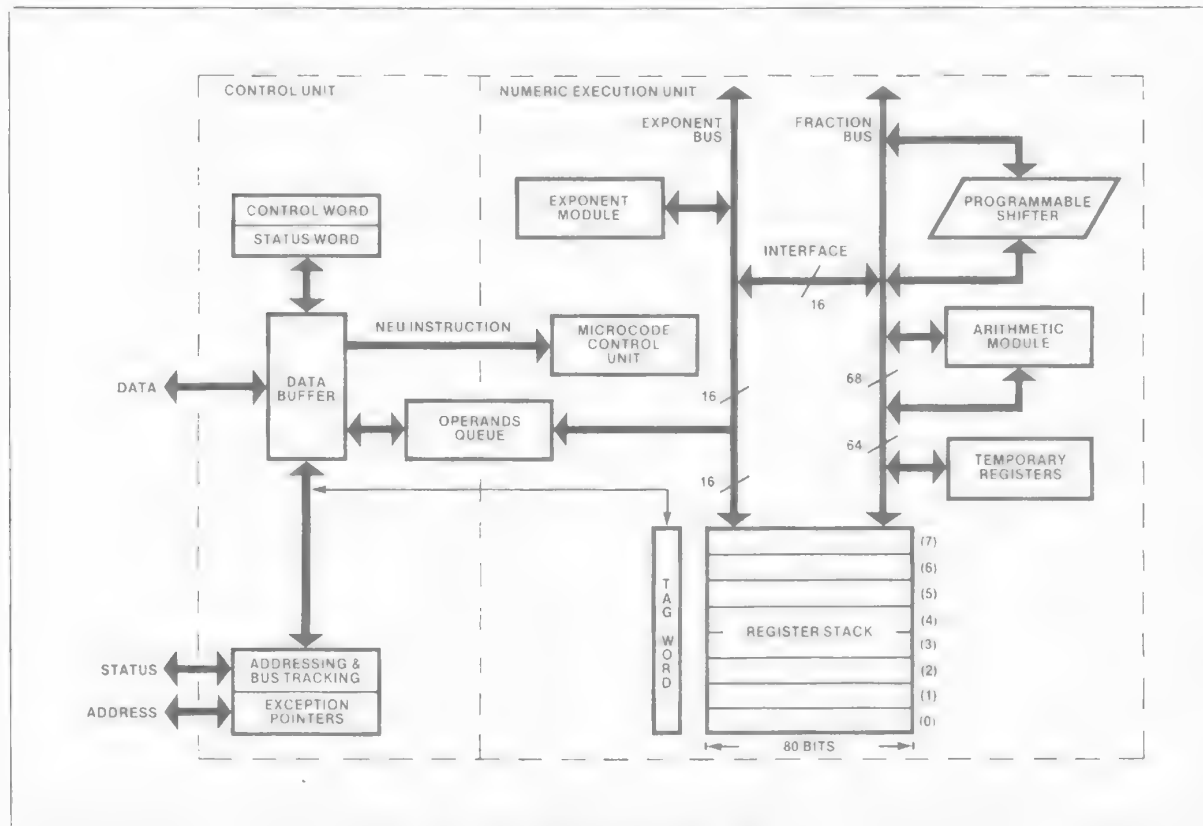

Figure 5. 8087 Block Diagram
As shown in Figure 5, the 8087 is internally divided into two processing elements, the control unit (CU) and the numeric execution unit (NEU). The NEU executes all numeric instructions, while the CU receives and decodes instructions, reads and writes memory operands and executes NPX control instructions. The two elements are able to operate independently of one another, allowing the CU to maintain synchronization with the CPU while the NEU is busy processing a numeric instruction.